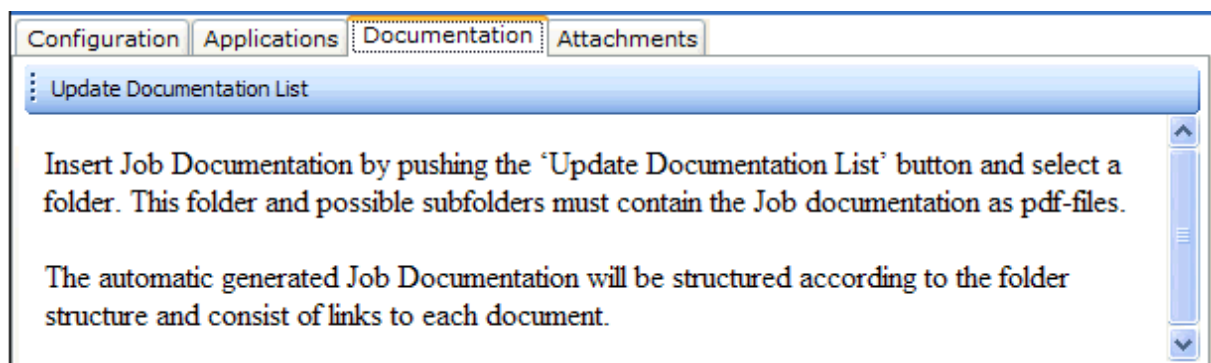

Figure 3.16 The Documentation tab is a placeholder for Job documentation
- **Documentation tab** – The Documentation tab is a placeholder for Job documentation. It functions similar to the Documentation tool of Brix Explorer – Sesam Configuration described in section 2.1. It is recommended that the folder containing job documentation is part of the Job root hierarchy. Figure 3.16 shows the default view of the tab with the explaining text.